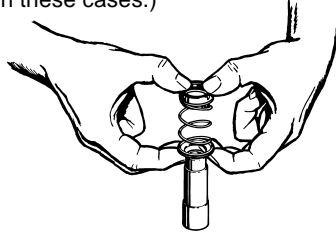

Figure 4-3
8. Remove the rotating element from the sleeve. Refer to Figure 4-3. The element normally adheres tightly to the sleeve and some force may be necessary to remove it. This is common and if care is taken, the element can be reassembled and reused. **It is recommended that a new rotating element be used for reassembly.** **DO NOT** attempt to remove the seal using a screwdriver or other sharp object. Extensive damage to the shaft, sleeve, or element could occur.